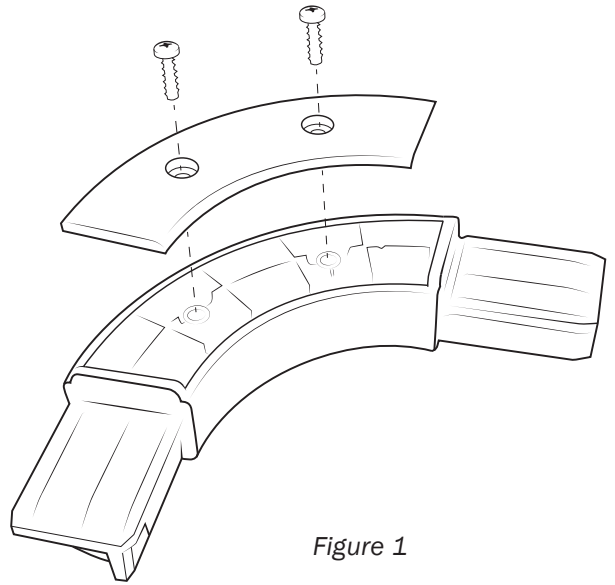

Figure 1
1. Attach corner close out plate to the bottom of each corner piece using the supplied screws (Fig. 1).